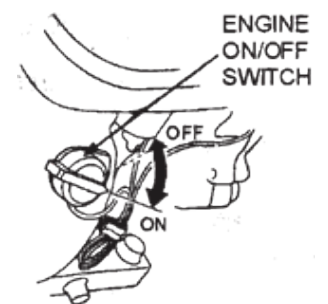

FIGURE 9
9.5 Place the engine ON/OFF switch (Figure 9) in the "ON" position.